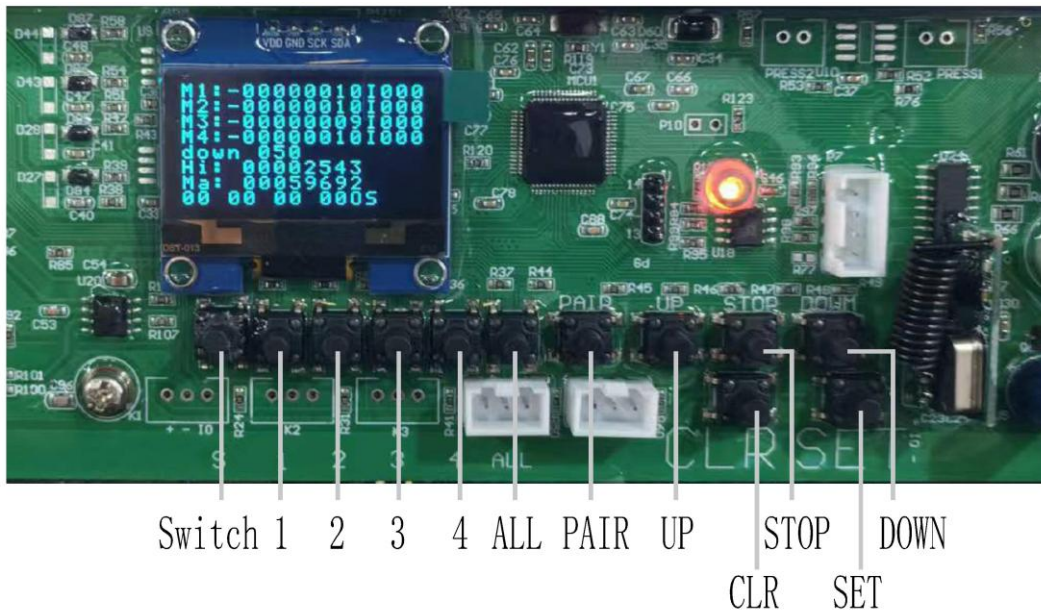

Fig 7.1
1、Open the electric control box and identify the display screen and operation buttons, as shown in Figure 7.1.